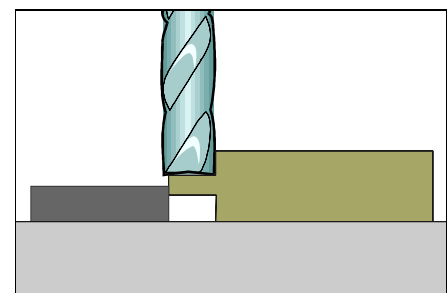

Figure 3: Machine a tongue onto both sides of the replacement base material.
6. Install an end mill into the milling machine. Machine a tongue onto both sides of the replacement piece. The dimensions of the tongue should match the size of the milled groove. (See Figure 3).